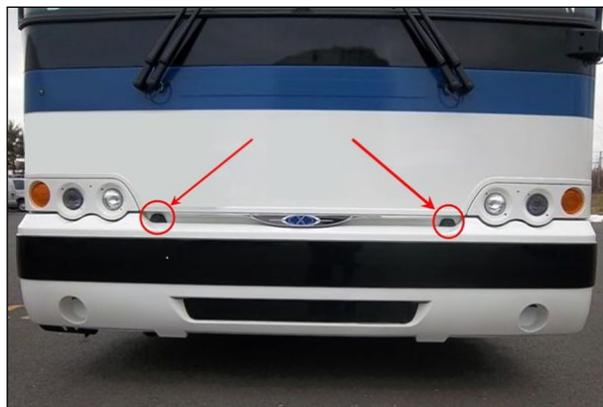

FIGURE 1: BUMPER TOP RETAINING BOLTS
33. Install the new thirteen (13) split blocks #504189 (figure 1 & 15). **Place the new split blocks at the same locations than the ones you have removed earlier in this procedure.**